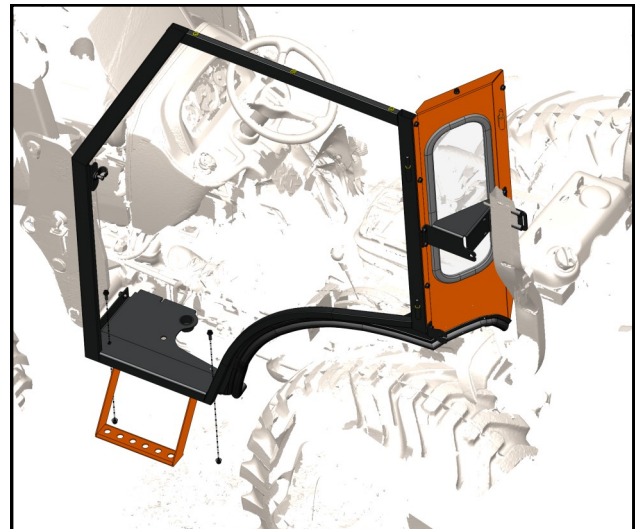

Fig. 4.2 (Side Frame)
- 4.2** Place the left side frame / rear leg assembly on top of the floorboard mount and fender with the ROPS mount flange to the inside of the ROPS. See figure 4.2. Secure the side frame to the floorboard mount with two 1" long bolts and nuts. Secure the back of the rear leg to the lower rear bracket with two 3/4" long bolts and nuts.